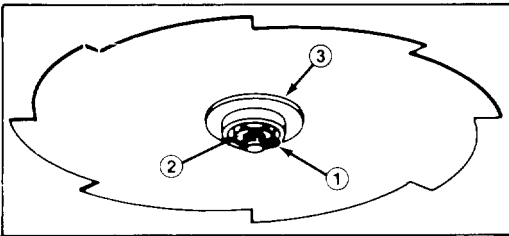

Figure 3
### INSTALLING OPTIONAL CUTTER BLADE (Fig. 3 & 4);
5. Insert cotter pin through hole in shaft and wrap ends around shaft (Fig. 3).
To prevent blade from loosening and possible personal injury, insert a new cotter pin through hole in shaft and wrap ends around shaft (Fig. 3).